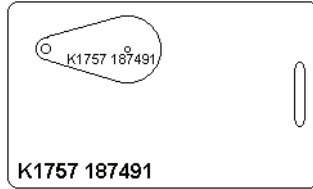

Figure 4-3: Proximity Card/Key Tag Number
5. Locate the Keri/Wiegand Card Number Range field. Click in the **Starting From** field. Enter the card number for the first card in the range of cards to be enrolled (the lowest number). The card number is the second set of digits printed on the body of the card (in Figure 4-3 on page 5 of this section, it is the digits corresponding to 187491). The card number will be more than 4 digits long. For example, the entire number of the first card is K1757 187491; the card number is **187491**, 6 digits long.
6. Locate the Keri/Wiegand Card Number Range field. Click in the **To** field. Enter the card number for the last card in the range of cards to be enrolled (the highest number). The card number is the second set of digits printed on the body of the card (in Figure 4-3, it is the digits corresponding to 187491). The card number will be more than 4 digits long. For example, the entire number of the last card is K1757 187495; the card number is 187495.